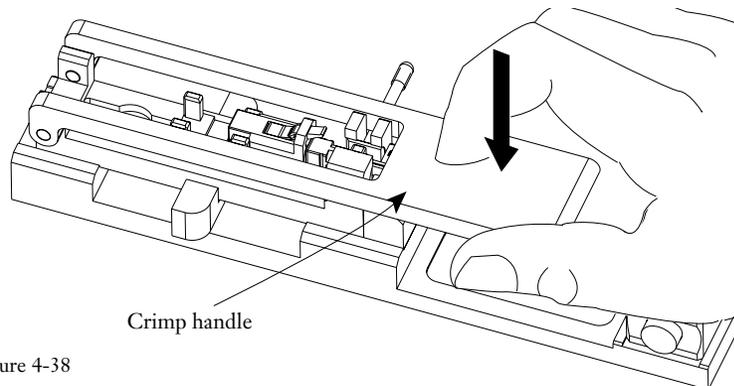

Figure 4-38
**4.8-5** Carefully flip the crimp handle 180° until it contacts the crimp tube. Push down firmly to crimp. The tool cannot over-crimp the connector (Figure 4-38).